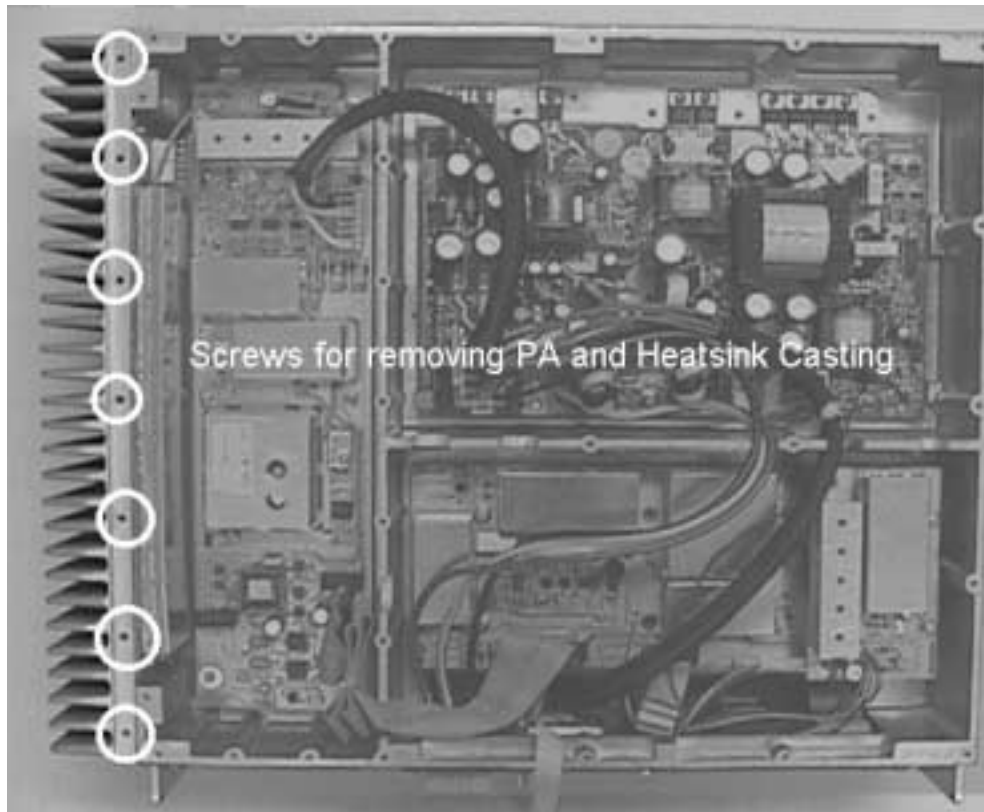

Figure 7.15: Bottom Cover Screws for VHF PA Removal
2. Remove the seven screws securing the bottom cover of the terminal to the finned heat sink casting as per Figure 7.15.
9. Replace the seven screws securing the bottom cover of the terminal to the finned heat sink casting. (Refer to Figure 7.15).